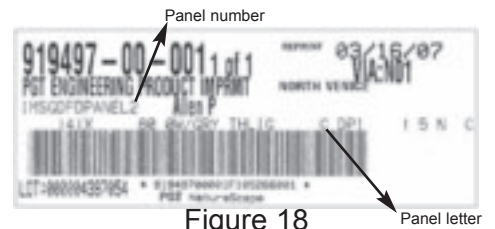

Figure 18
1. Shipping labels on panels will have the panel # and letter name on them; they will be installed in order from left to right. Please see the configuration page for the proper track the panel goes onto. (See Figure 18)